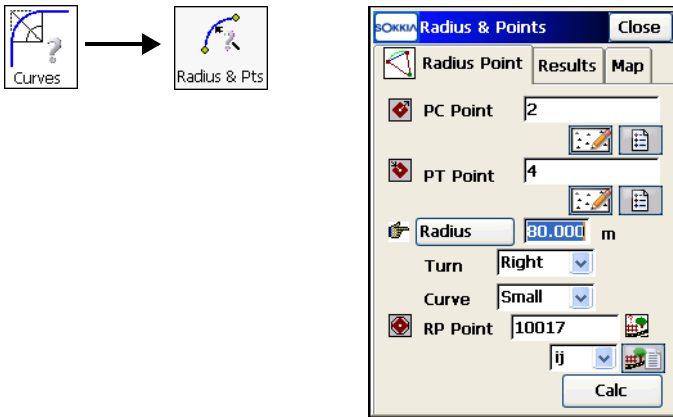

Figure 10-11. Radius & Points
1. On the *Radius and Points* screen (Figure 10-11 on page 10-11), select the initial data for the task: the curve points, the radius parameter, the direction of turn and whether the smaller (less than 180 degrees) or the larger curve (more than 180 degrees) between the curve points is to be considered. Also, enter the resulting RP point name and code.